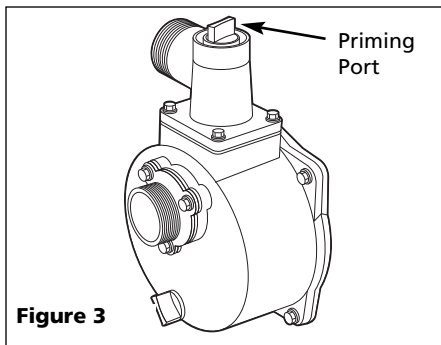

Figure 3
9. Add water to the priming port on the pump (See Figure 3). Continue adding water until the water level is approximately 3 inches from the top. Install the priming plug. The water in the pump will create the suction that primes the pump.